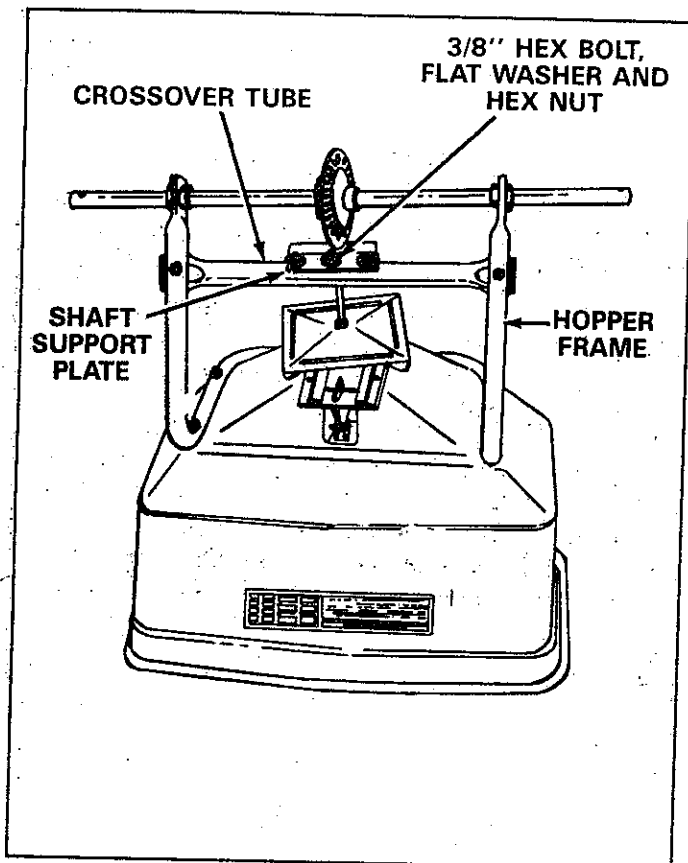

FIGURE 3
2. Turn the spreader upside down as shown in figure 3, so that it rests on the hopper.
3. Remove the 3/8" hex bolt, flat washer and hex lock nut from the center of the crossover tube and shaft support plate. See figure 3.
5. Assemble short end of hitch tube to the crossover tube (on opposite side from shaft support plate). Fasten to the center hole in the crossover tube using the previously removed 3/8" x 2" hex bolt, the 3/8" flat washer and the 3/8" hex lock nut. See figures 3 and 4. **DO NOT TIGHTEN AT THIS TIME.**